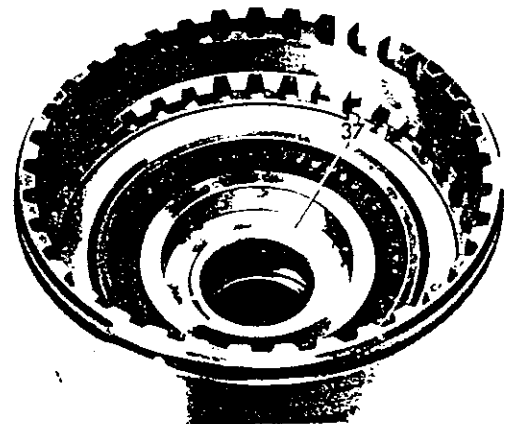

Fig. 10
12 Pull out thrust washer (37) (Fig. 10).
- 24** Insert thrust washer (37) coated with grease (Fig. 10).